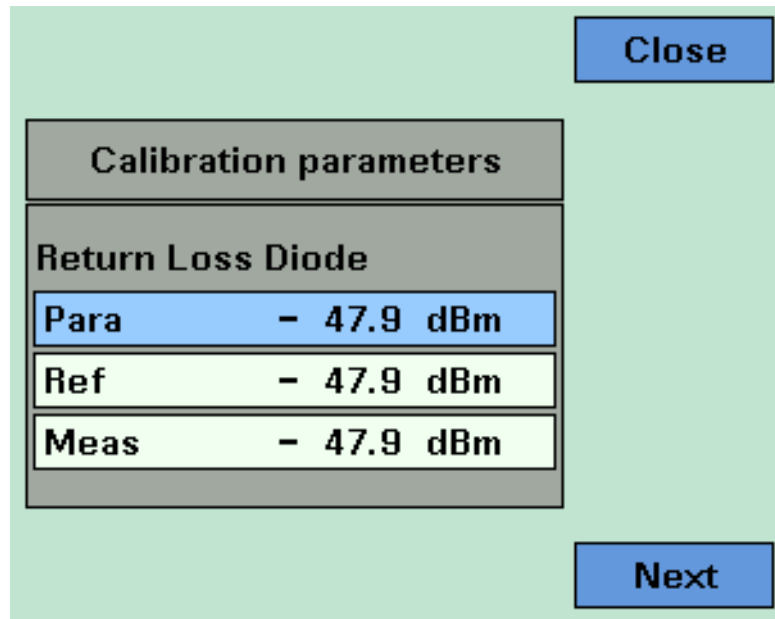

Figure 122 The Calibration Parameters Screens - Return Loss Diode
- 1 Press [Menu]. Move to the <Show calibration> menu item. The *Calibration parameters* screen for the *Return Loss Diode* appears, as displayed in Figure 122 on page -200. This screen shows current value for the following quantities: